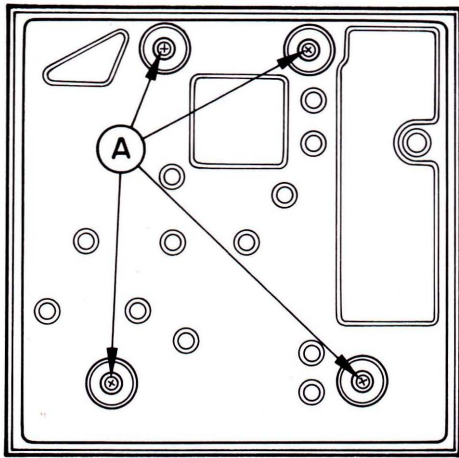

Fig. 1
3. Remove the four leg screws (A) as illustrated in Fig. 1.